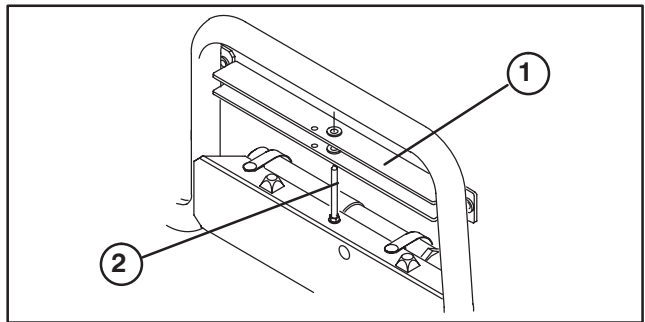

Figure 3
6. Slide bed support off storage stud (Fig. 3). Retain bed support.